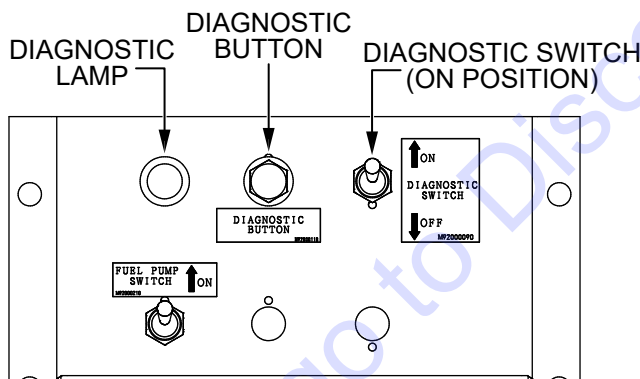

Figure 82. Diagnostic Panel
5. To start the diagnostic process, place the **Diagnostic switch** in the **ON** (Figure 82) position.
6. Verify that the **Diagnostic lamp** (Figure 82) is **ON**. This indicates that there is a fault/error in the engine or the engine control system.
7. Press and hold the **Diagnostic button** (Figure 82) to identify the fault and verify the following:
- The **Diagnostic lamp** (Figure 82) will flash a pattern corresponding to the detected fault code 3 times at 2.4-second intervals.